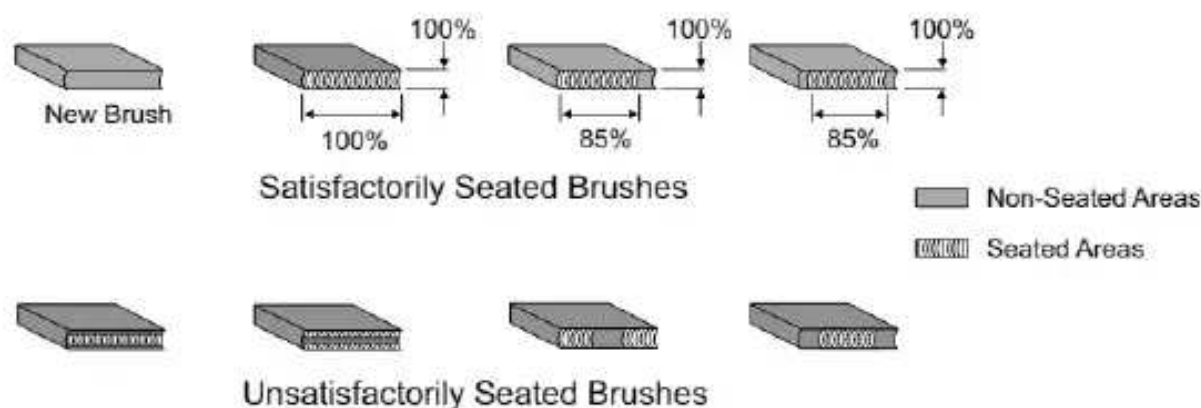

Figure 4-3
- D. An acceptable brush seat should indicate 85 – 100% brush contact in the direction in rotation and at least 85% parallel to the armature shaft. Continue running the generator to achieve this seating, if brush seating is unacceptable. Refer to Figure 4-3 for typical brush seating.